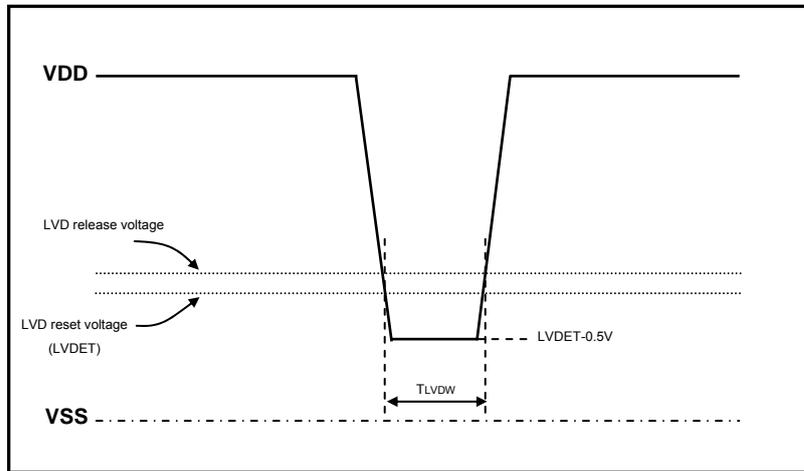
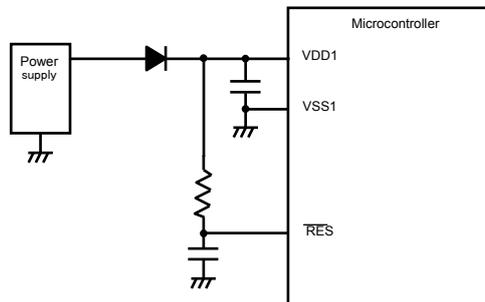

Figure 4.6.4 Example of Momentary Power Loss or Voltage Fluctuation Waveform
Figure 4.6.5 Example of Momentary Power Loss/Voltage Fluctuation Countermeasures
- 3) When momentary power loss or voltage fluctuations shorter than several hundred μs are anticipated the response time measured from the time the LVD detects a power voltage drop at the option-selected level until it generates a reset signal is defined as the minimum low-voltage detection width TLVDW shown in Figure 4.6.4 (see “SANYO Semiconductors Data Sheet”). If momentary power loss or power voltage fluctuations shorter than this minimum low-voltage detection width are anticipated, be sure to take the preventive measures shown in Figure 4.6.5 or other necessary measures.